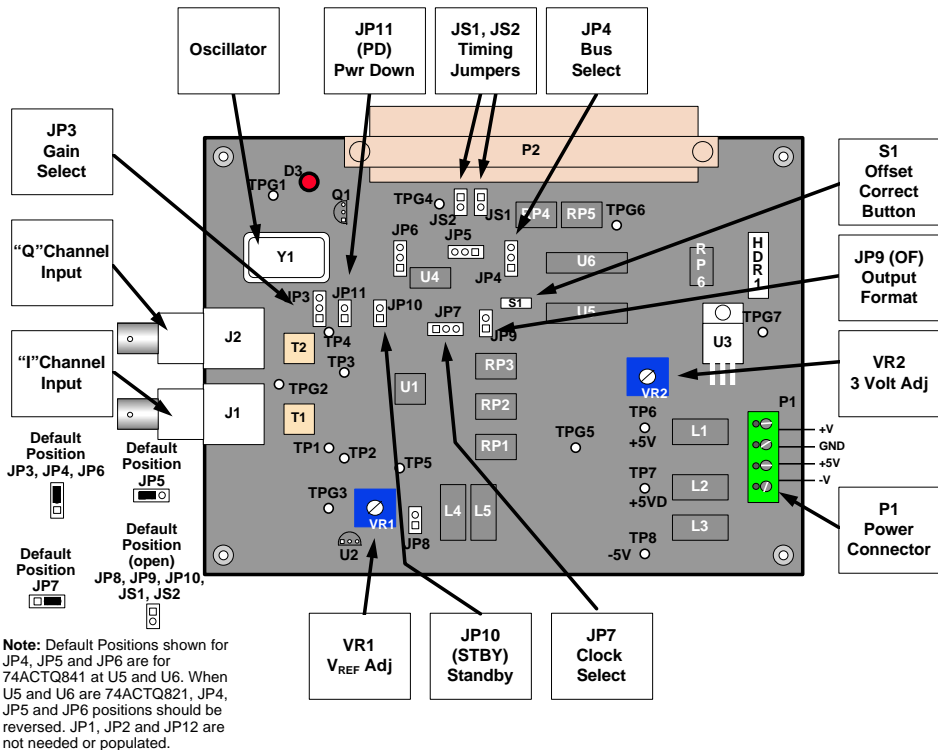

Figure 1. Component and Test Point Locations
The ADC10D040 Evaluation Board may come pre-assembled or as a bare board that must be assembled. Refer to the Bill of Materials (Section 8.0) for a description of components, to *Figure 1* for major component placement and to *Figure 8* (in Section 8.0) for the Hardware schematic.
Refer to *Figure 1* for locations of test points and major components. For Stand-Alone operation:
2. To use the crystal oscillator located at Y1 to clock the ADC, connect the jumper on JP7 to pins 1 and 2 (opposite from default position shown in *Figure 1*).
To select the "Q" channel, and direct its output to the data bus, place the jumper on JP4 between pins 1 and 2 (opposite from default position shown in *Figure 1*).
An adjustable reference circuit is provided on the board. When using the resistor values shown in *Figure 1*, the reference circuit will generate a nominal reference voltage in the range of 0.4 to 1.2 Volts. The ADC10D040 is specified to operate with  $V_{REF}$  in the range of 0.8V to 1.2 V, with a nominal value of 1.0V when the GAIN pin is at a logic high, or half these values when the GAIN pin is at a logic low. The reference voltage can be monitored at test point TP5 and is set with VR1.